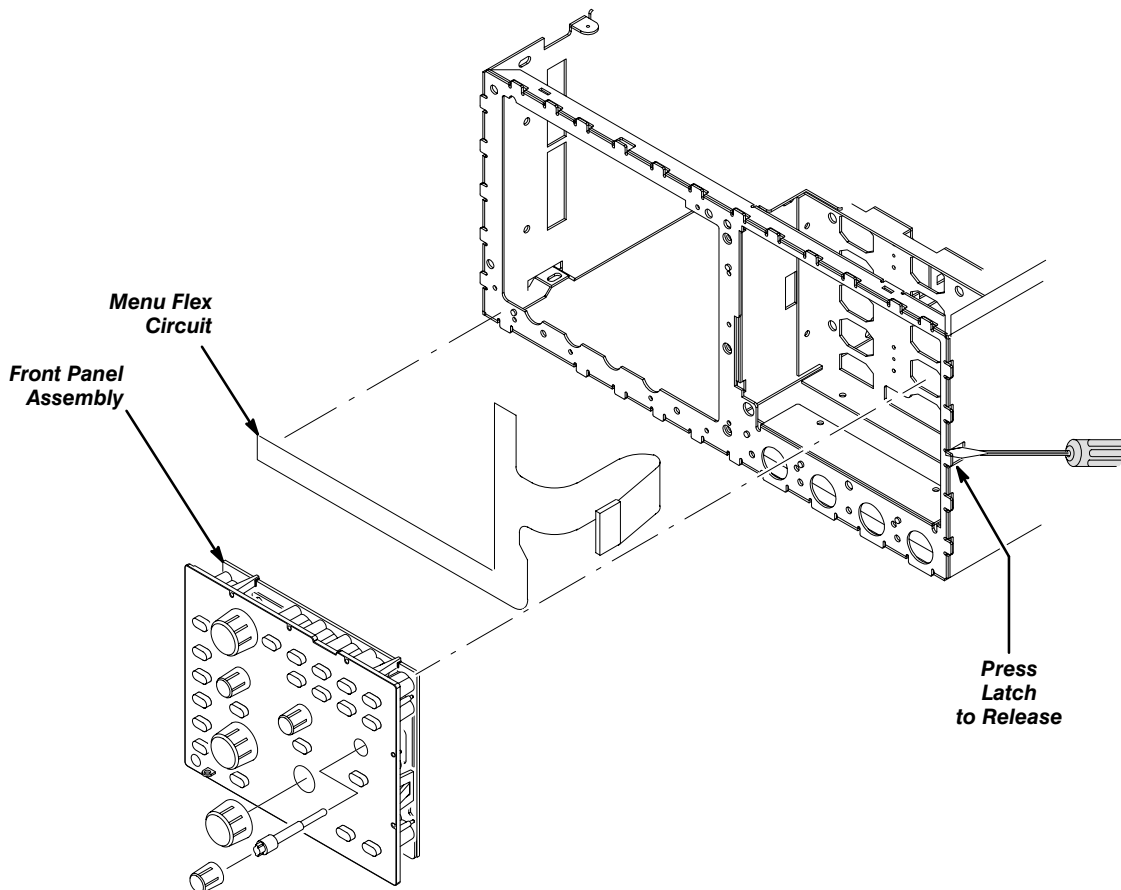

**Figure 8-7: EMI Gasket Removal and Installation**
- f. Using a wood spudger, push the EMI gasket until it is firmly seated at the bottom of the groove (see Figure 8-7). It should not overlap either flex lock.